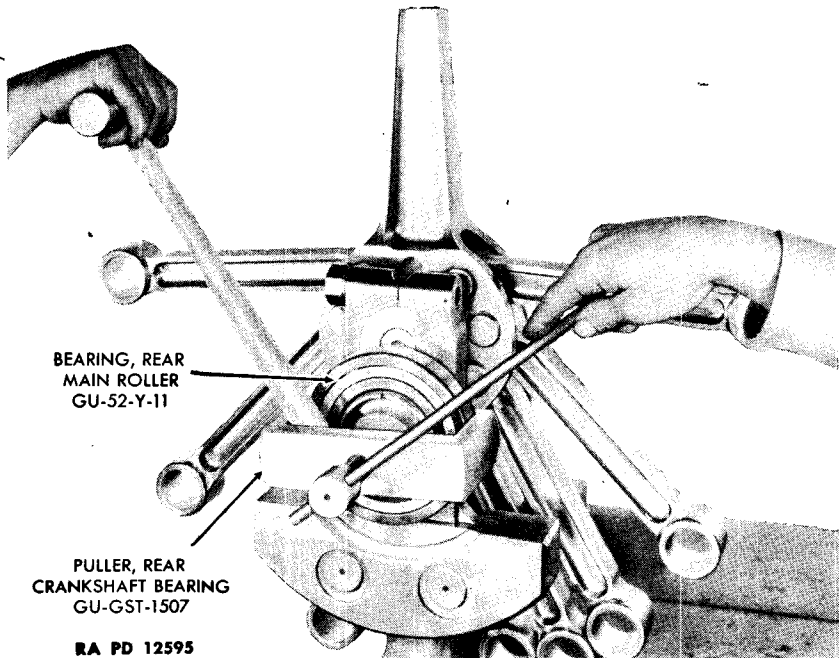

Figure 35—Removing the Crankshaft Rear Main Roller Bearing
- (2) REMOVE THE REAR MAIN BEARING (fig. 35).
Clamp the fingers of the rear crankshaft bearing puller GU-GST-1507 behind the rear main roller bearing GU-52-Y-11 (fig. 35). An adapter is used on the crankshaft under the puller screw. Turn the screw of the puller against the adapter and crankshaft to pull the rear main roller bearing off the shaft. NOTE: A wooden bar, such as a hammer handle, should be inserted between the puller and the crankshaft to keep the puller from "creeping" around while it is being used. Be careful not to let the puller fingers ride against the crankshaft cheeks, or it might damage them.